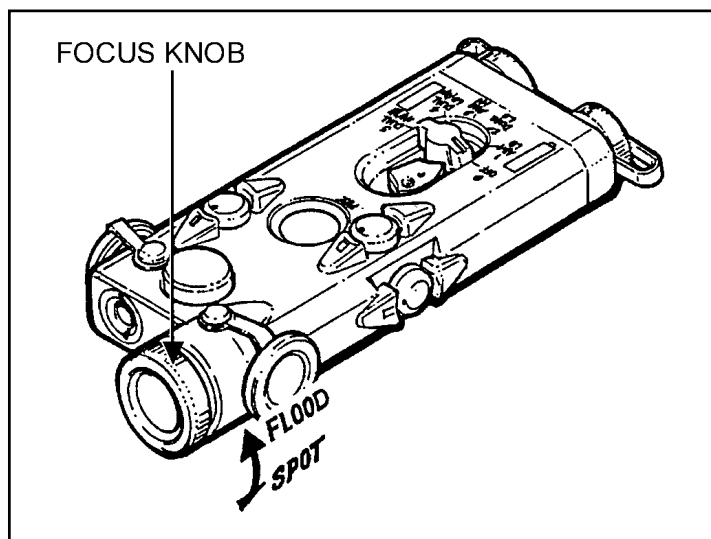

Figure F-11. Using the focus knob.
(6) **Focus Knob** (Figure F-11). The focus knob is used to vary the spread of the illumination beam based on the range and size of the area to be illuminated.